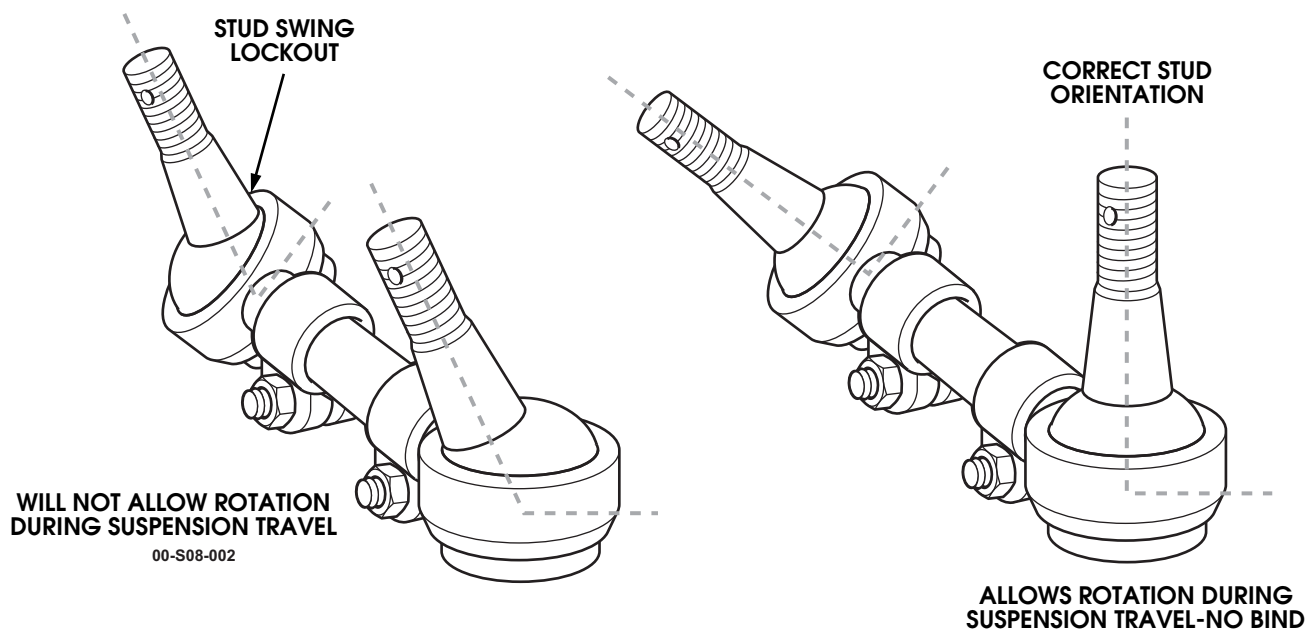

Figure 4: Tie rod end stud and socket orientation.
6. Before final tightening of the sleeve clamp hardware, center both tie rod end studs in their sockets (See Figure 4).